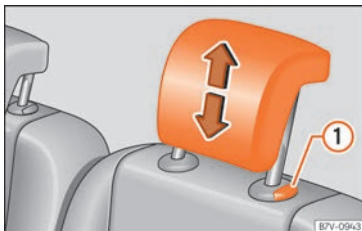

Fig. 134 Fitting the headrests in the second or third row of seats
- Remove the headrest completely while pressing button »» » **Fig. 134** ①.